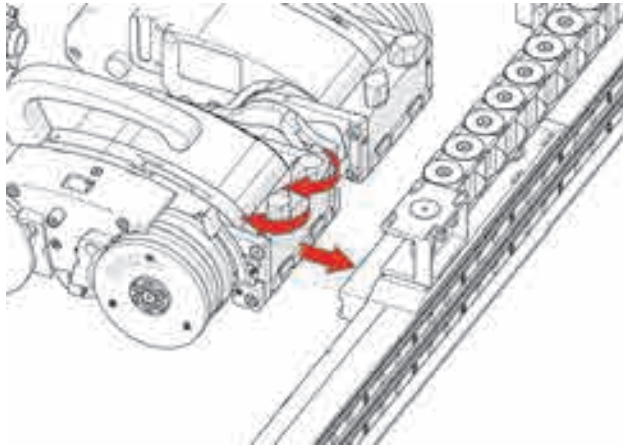

Figure 4-39 Mount raster arm to the right drive module's swivel mount
2. Loosen the two black wing knobs of the right drive module. Affix the raster arm with the probe holder mount onto the dovetail jaws of the right drive module's swivel mount (see Figure 4-39 on page 124).